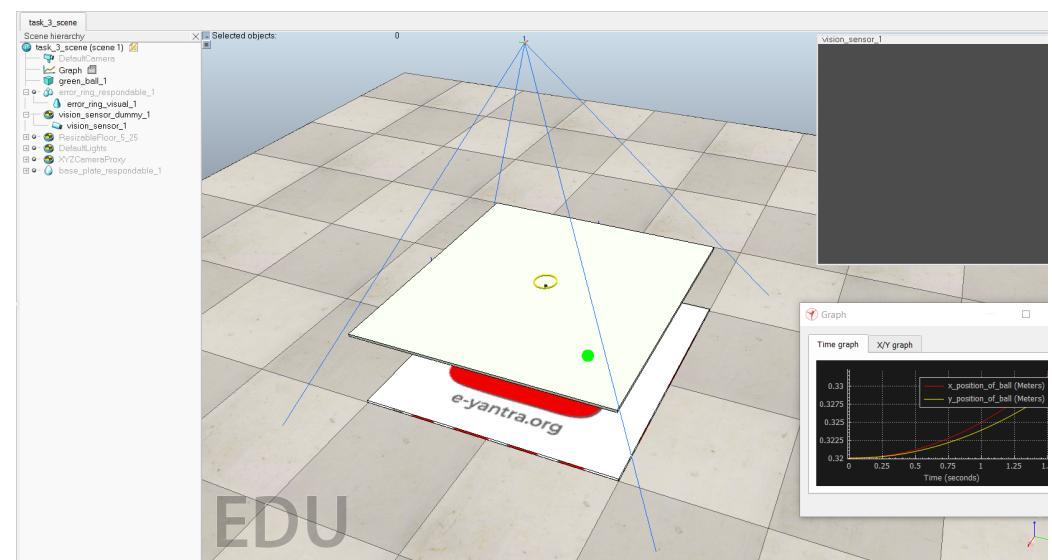

Figure 7: View of the CoppeliaSim scene while recording the video.
- Position the view of the scene as shown in Figure 7.
NOTE: In Figure 7, objects such as servo, servo holders etc. are hidden. You are **NOT** allowed to **hide** any object/joint/force sensor/dummy.